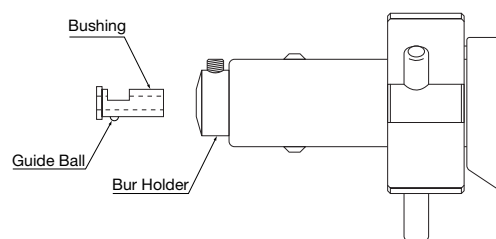

Fig.3
- ② To mount a larger tool ($\varnothing 3.2$ mm through $\varnothing 6.4$ mm), loosen the setscrew, remove the bushing, insert the tool and tighten the setscrew. (To re-install the bushing, align the guide ball on the bushing with the slot in the bur holder.) (**Fig.3**)